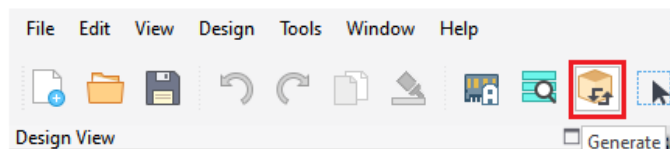

Figure A.16. Generate SGE Button
9. Click the **Generate SGE** button as shown in Figure A.16.